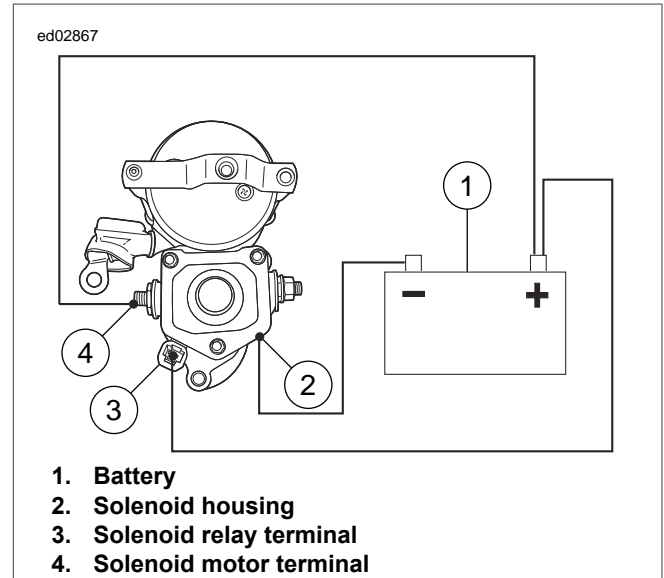

Figure 3-8. Hold-In Test
1. See Figure 3-8. With test leads still connected in the manner specified in the previous 3.5 TESTING STARTER ON BENCH, Solenoid Pull-In Test, disconnect solenoid motor terminal negative battery test lead at negative battery post only. Connect loose end of this test lead to positive battery post instead.